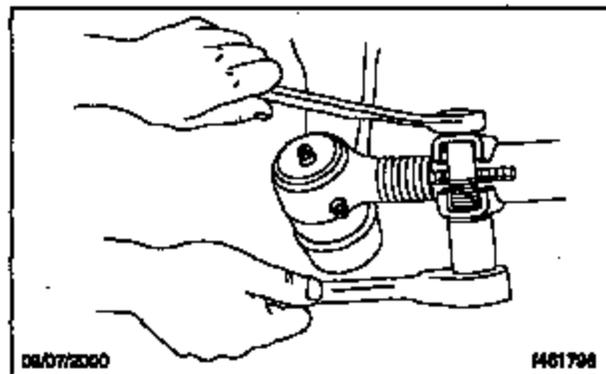

Fig. 2, Loosen the Bolts and Nuts on the Cross-Tube Clamp
1. Loosen the bolts and the nuts on the cross-tube clamps. See Fig. 2.